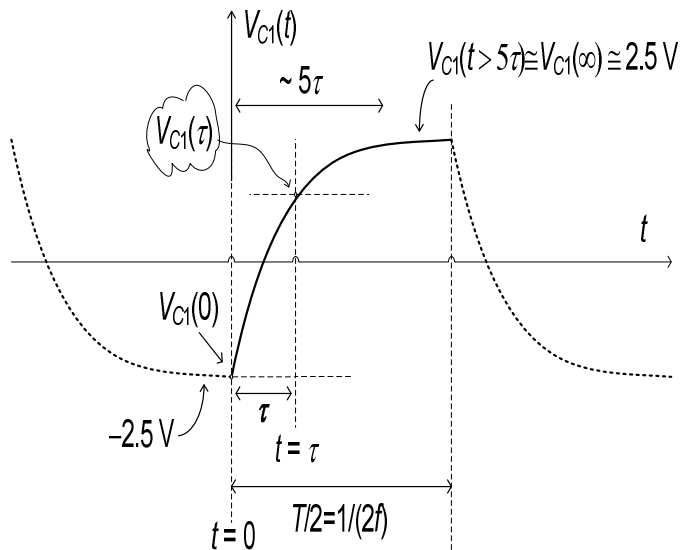

Figure 2. The capacitor voltage $V_{C1}(t)$ versus time t .
- Measure the approximate value of the time constant τ of the circuit from the $V_{C1}(t)$ waveform (call this time constant τ_{measured} or τ_m). Note that over each $T/2$ time interval during which the source voltage $V_S(t)$ is either -2.5 V or 2.5 V, assuming $t=0$ to be the starting time of each one of these $T/2$ intervals, the capacitor voltage $V_{C1}(t)$ varies with respect to time as $V_{C1}(t) = V_{C1}(0)e^{-t/\tau_m} + V_{C1}(\infty)(1 - e^{-t/\tau_m})$ where $V_{C1}(0)$ is its initial value and $V_{C1}(\infty)$ is its final value. So, for example, the capacitor voltage at $t = \tau_m$ is approximately given by $V_{C1}(t = \tau_m) \cong 0.368V_{C1}(0) + 0.632V_{C1}(\infty)$. Refer to the middle portion of the $V_{C1}(t)$ sketch shown in Fig. 2 for which $V_{C1}(0) = -2.5$ V and $V_{C1}(\infty) = 2.5$ V. Substituting these values yield $V_{C1}(\tau_m) \approx 660$ mV. Using this portion of the $V_{C1}(t)$ waveform seen on the oscilloscope display, measure and record the approximate value of the time constant τ_m using the $V_{C1}(\tau_m)$ voltage point on the $V_{C1}(t)$ waveform.